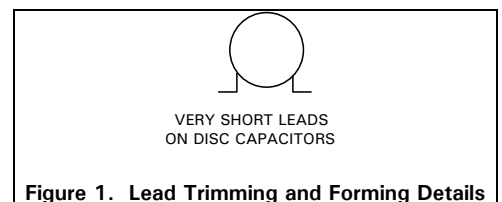

Figure 1. Lead Trimming and Forming Details
All parts are tack soldered to the pc board; so it is necessary to cut and form leads so that they seat properly on the board and be sure to keep leads as short and direct as possible. This is especially true of the disc capacitors. Figure 1 shows how to trim and form the leads of capacitors.
c. Form the leads of C1 close to the body, as shown in figure 1, and tack solder on the board.
d. Tack solder C4-C5, bending the leads at right angles, and keeping them as short as possible, as shown in figure 1. It is important to angle the capacitors as shown in figure 2 and position them as close as possible to the body of the transistor. The idea is to connect them electrically as close as possible to the emitter and base terminals or the emitter and col-
f. Form the leads of C10 and C11 close to the body, as shown in figure 1, and tack solder on the board with short leads. Be careful not to stress the leads of the capacitors too much to avoid breakage.